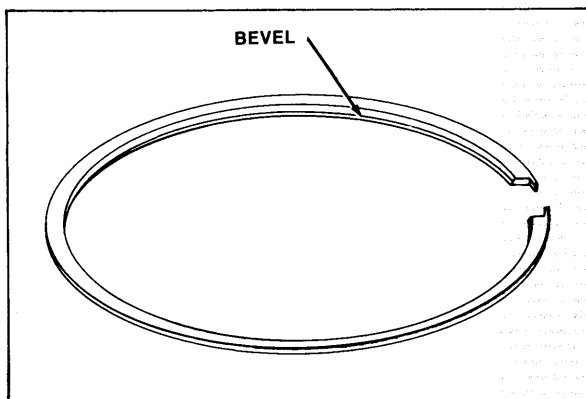

Figure 17—Bevel on Piston Ring
- I. If a new piston pin needle bearings were installed, apply a liberal amount of motor oil on them. Connecting rod must slide easily between clearance of the two (2) spacers.
- J. Install piston rings on piston with bevel on piston ring positioned up as shown in figure 17.